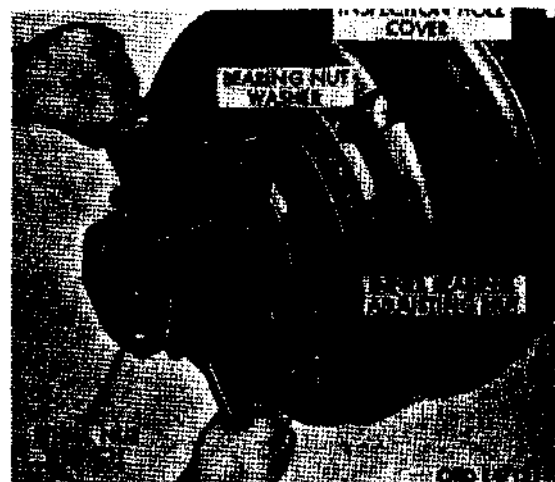

Figure 331. Removing outer-bearing adjusting nut
- (2) Using wheel nut wrench (fig. 331), remove outer-bearing adjusting nut and bearing nut washer.
- (3) While turning wheel, tighten inner-bearing adjusting nut (fig. 331), using large end of wrench, until wheel binds; then back off nut approximately one-eighth turn. Recheck wheel bearing adjustment ((a) above).
- (4) Using wheel nut wrench, install bearing nut washer (fig. 331) and outer-bearing adjusting nut. Tighten outer nut.